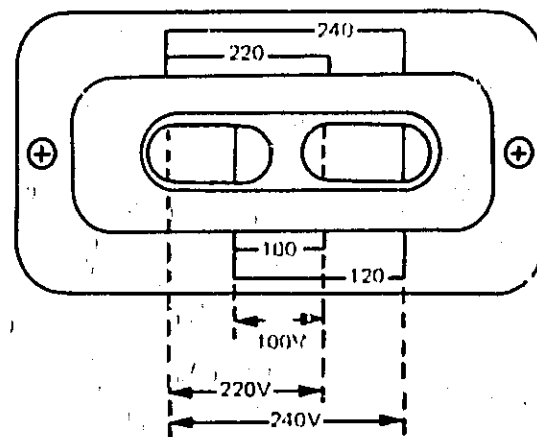

Figure 2-1. Line Voltage Selection Switch Settings
- c. Through opening in bottom cover, set power selector switches to proper position for input power source. Figure 2-1 shows switches set for 120-V operation.